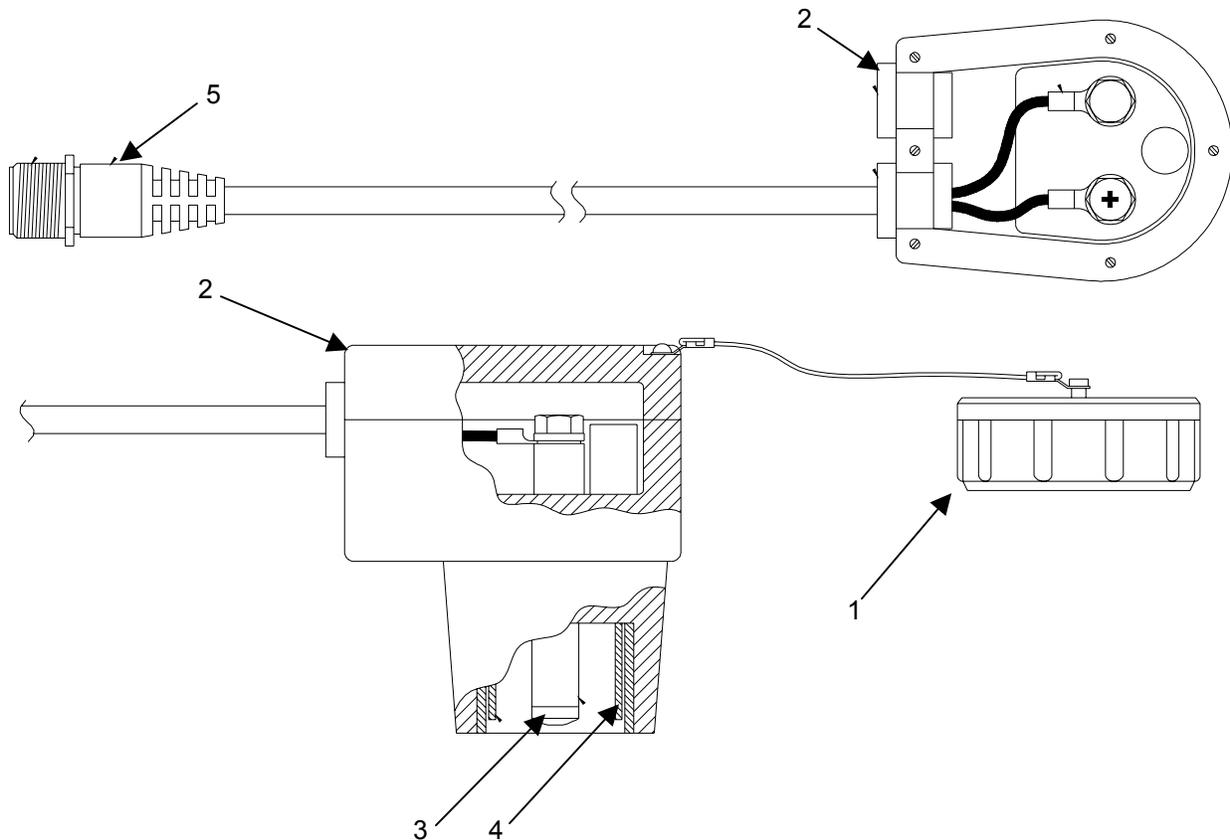

Figure 2. Test the NATO Adapter Cable
1. Remove the outer cap (**figure 2, item 1**) of the large power connector (**figure 2, item 2**).
2. Use an ohmmeter to test for continuity between the terminal (**figure 2, item 3**) in the large power connector (**figure 2, item 2**) and each terminal in the small power connector (**figure 2, item 4**). There should be continuity with only one terminal in the small power connector. Replace a NATO Adapter Cable which does not pass this test.
3. Use an ohmmeter to test for continuity between the socket (**figure 2, item 5**) in the large power connector (**figure 2, item 2**) and each terminal in the small power connector (**figure 2, item 4**). There should be continuity with only one terminal in the small power connector. Replace a NATO Adapter Cable which does not pass this test.
4. Install the outer cap (**figure 2, item 1**) on the large power connector (**figure 2, item 2**).